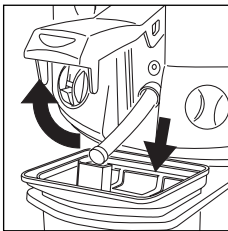

fig. 16
4. Open door for drain hose storage (as in fig. 16).
5. Insert oil filter onto the container (fig. 16)